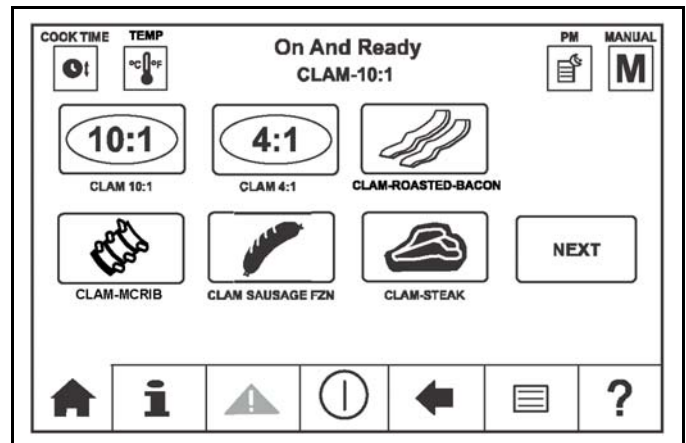

Figure-22
- Once the grill reaches the desired setpoint, the auto calibration screen will appear for 40 seconds and then close. The screen will then display the following (see Figure-22): .